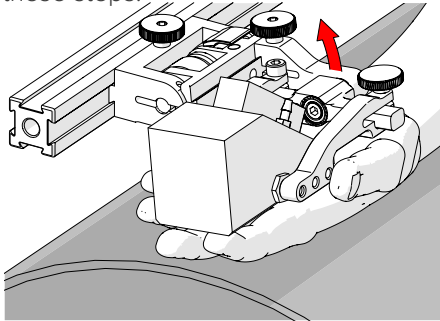

Fig. 154 - Lift to latched position
1. Ensure the probe holder is in the latched upper position (Fig. 154). If the probe holder is already latched, it will only move within the slip joint adjustment range and have no spring tension.
1. Ensure the probe holder is in the upright latched position (Fig. 154).